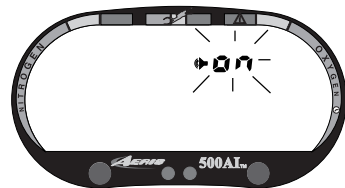

Fig. 20 - Set Audible
- the Audible Alarm icon appears with 'On', or 'Off', flashing (Fig. 20)